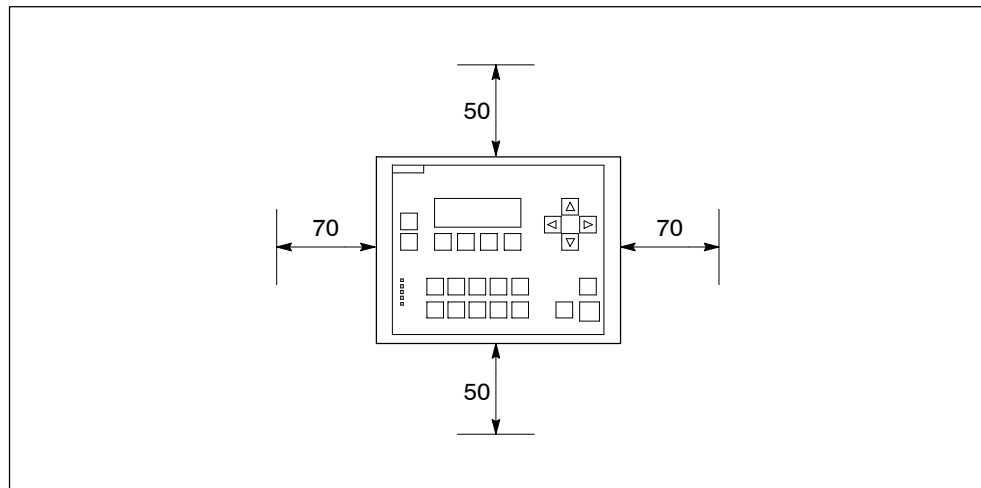

Figure 2-6 Clearances for Installing the C7-613
- At the sides of the C7-613, keep a clearance of at least 50 mm and 70 mm for cable outlets and the air ventilation (refer to Fig. 2-6).